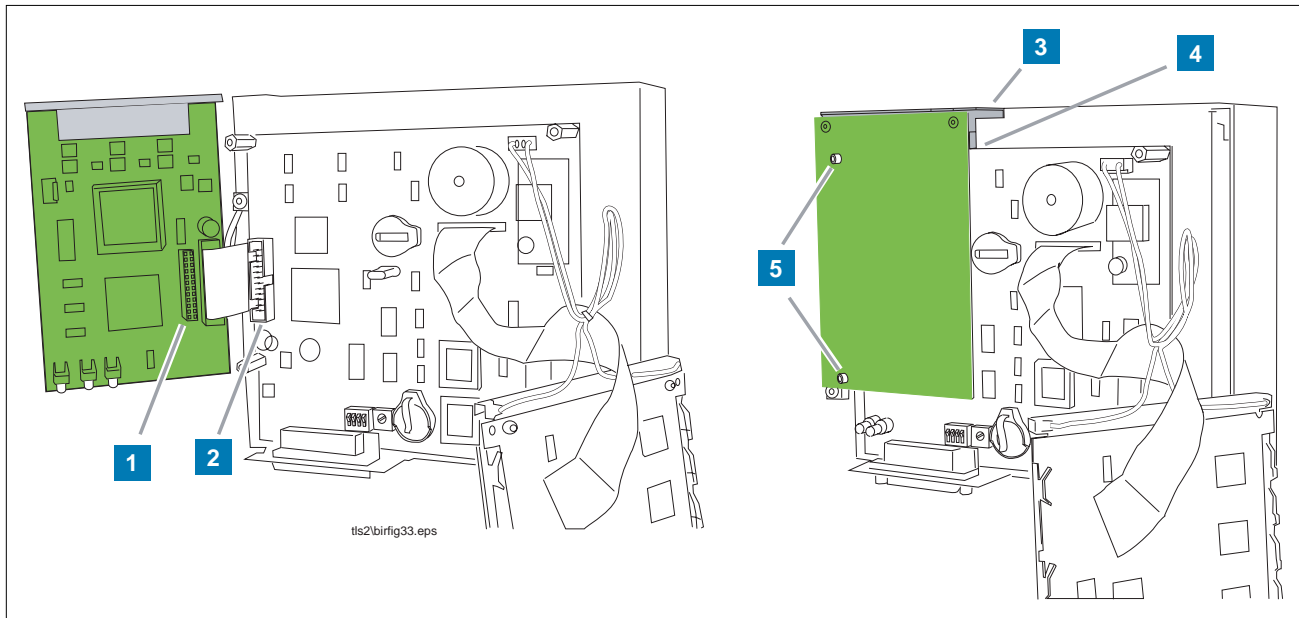
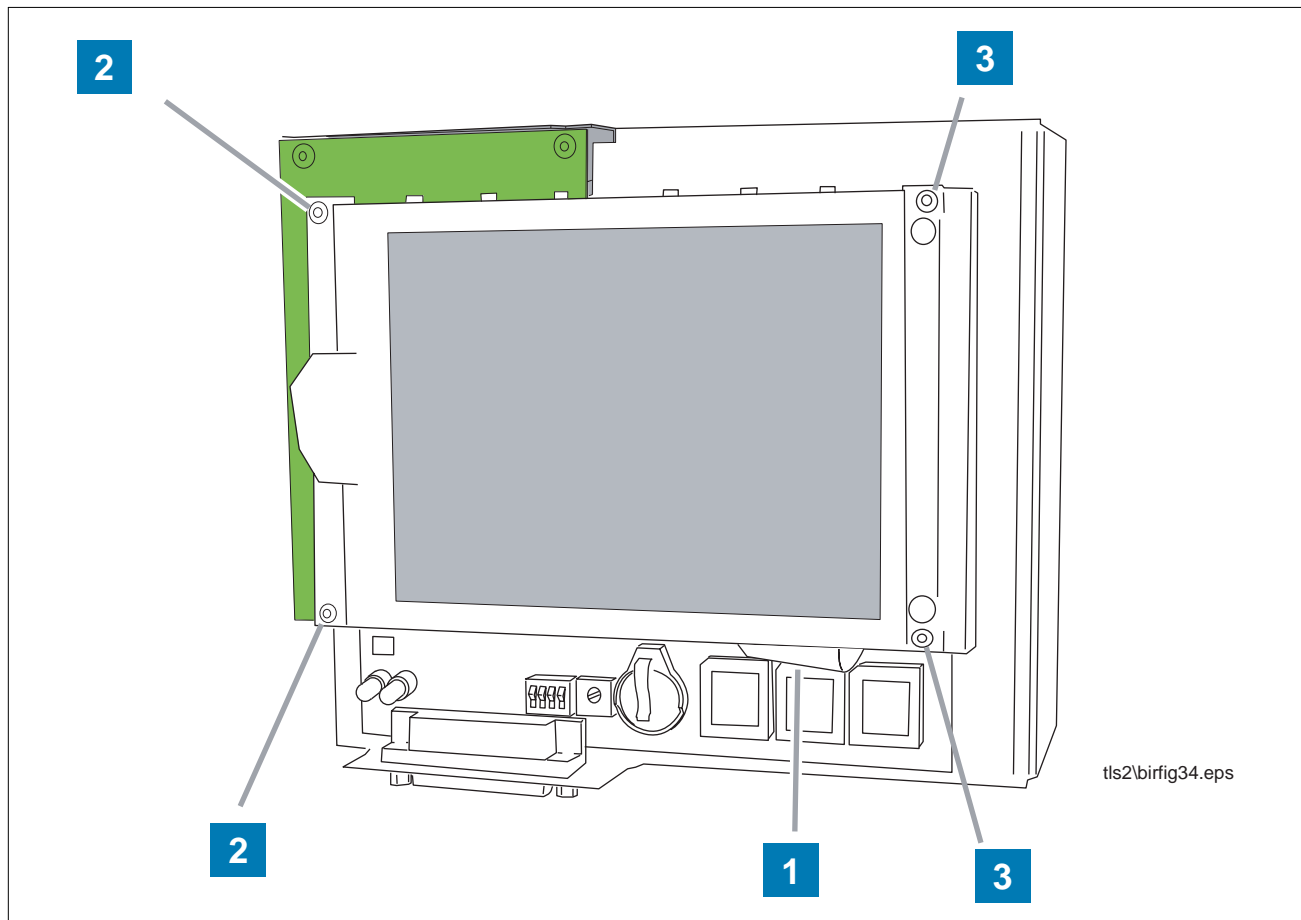

Figure 5. Attaching the DIM board to the CPU board
Figure 6. Reattaching the display assembly to the CPU board
- 9 Swing the DIM board over onto the CPU board and plug the connector (item 1 in Figure 5) of the DIM board into the 2-row shrouded header (item 2 in Figure 5) on the CPU board.
- 10 When correctly installed, the DIM board will be flush with the top of the console (item 3 in Figure 5) and the end plate bracket will be seated against the edge of the CPU board (item 4 in Figure 5).
- 11 The small standoffs on the rear of the DIM board (item 5 in Figure 5) should be aligned over the holes in the hex standoffs replaced on the CPU board in Step 6 on Page 5.
- 13 Fold the ribbon cable from the CPU board to the display assembly so it is between the display assembly and the CPU board (see item 1 in Figure 6) as you align the display mounting holes over the hex standoffs.
- 14 Reattach the display assembly to the CPU board using the four T-10 screws and washers. The left two screws (item 2 in Figure 6) must pass through the standoffs on the back of the DIM board (item 5 in Figure 5 on page 7) and into the shortened hex standoffs on the CPU board.
- 15 The right two screws (item 3 in Figure 6) attach to the original hex standoffs on the CPU board.